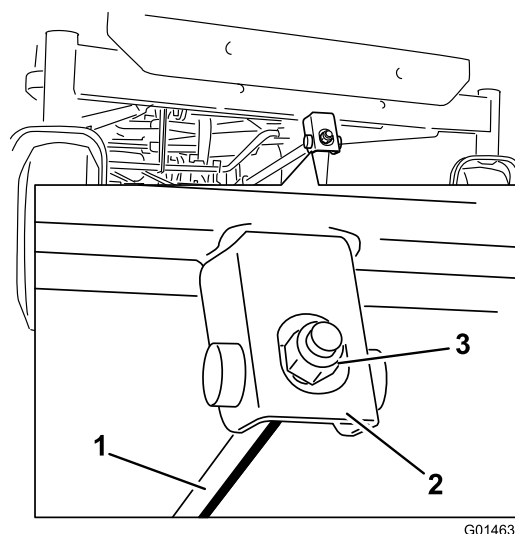

Figure 58
6. To adjust the front-to-rear blade slope, rotate the adjustment nut in the front of the mower (Figure 58).